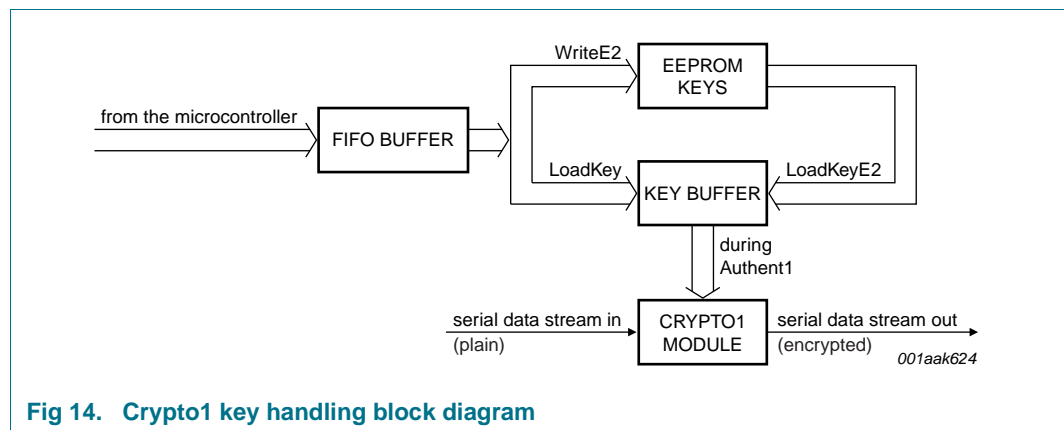

Fig 14. Crypto1 key handling block diagram
- the microprocessor's FIFO buffer using the LoadKey command (see Section 11.6.2 on page 88). This is shown in Figure 14.